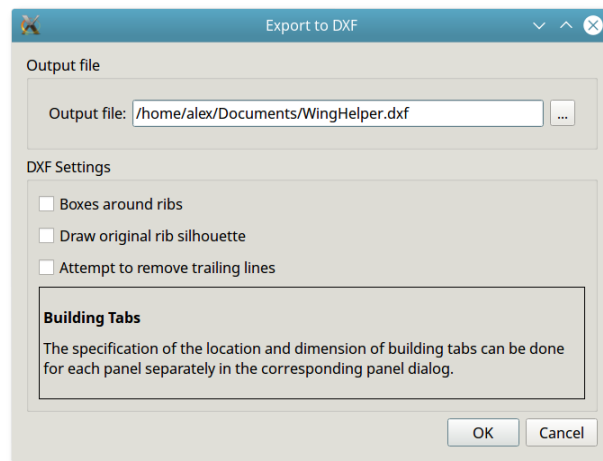

Figure 23: DXF Export
1. DXF⁸ export contains (Figure 23):